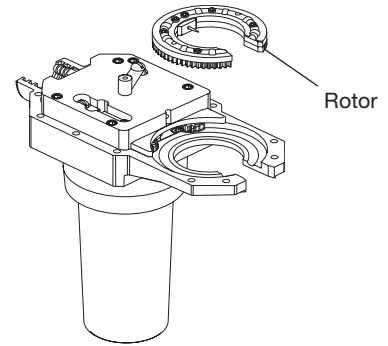

Figure 27 Removing the Rotor
7. Remove the rotor from the motor half of the weld head housing. See Figure 27.